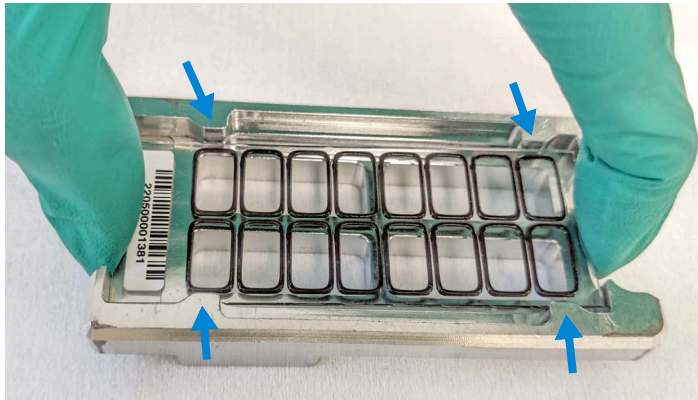

Figure 8 Chamber base with gasket and microarray slide applied, guide posts denoted with arrows
- 2 Use the four chamber base guideposts and rectangular end of the base to position the microarray slide as you lower it to within 3 mm (1/8”) above the gasket slide, making sure the microarray slide is not tilted with respect to the gasket slide. Barcode ends of both the gasket slide and the microarray slide must line up at the corners of the chamber base. Once positioned, gently rest the microarray slide on the lower gasket slide. Refer to **Figure 8**.